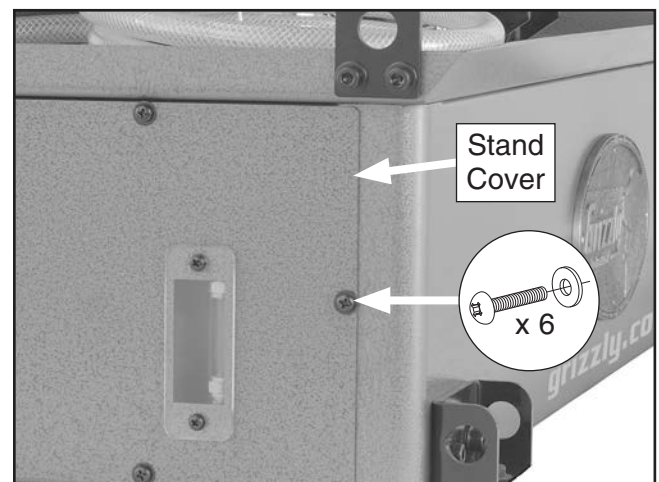

Figure 81. Location of stand cover and fasteners.
3. Remove (6) Phillips head screws and flat washers shown in **Figure 81** to remove stand cover.